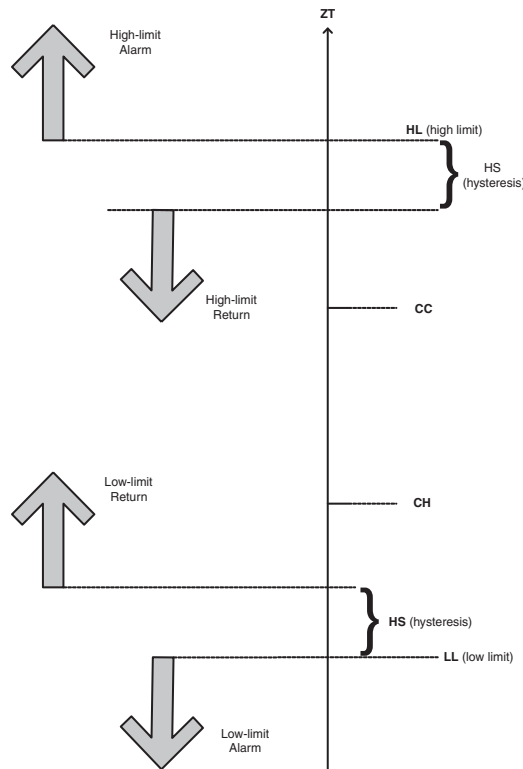

Figure 3-6: Effect of **UH** and **NH** on Control With an SBC-STAT
Attribute FE00;NH is Night SetBack. It specifies, in +/- degrees, the amount to be added to the heating setpoint (SH) when the SBC-VAV is in night setback mode. This attribute defaults to 10.0. Figure 3-6 shows the effect of UH and NH on SBC-VAV control operations in a scheduled night setback mode.